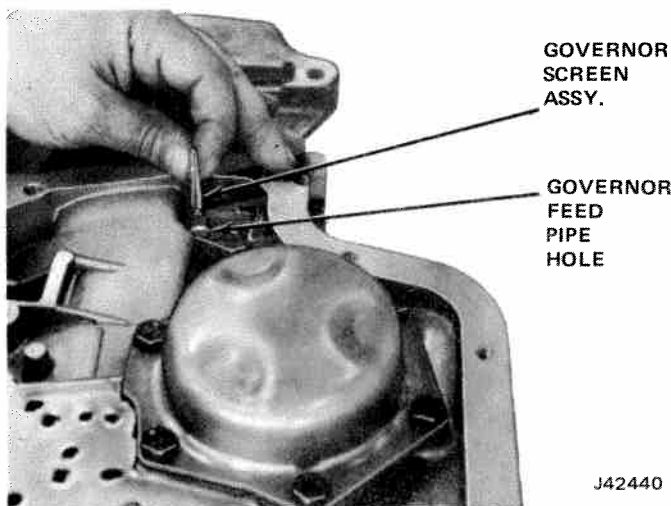

Fig. 7-10 Governor Screen
- (4) Remove governor screen assembly from end of governor feed pipe or governor feed pipe hole in case (fig. 7-10).